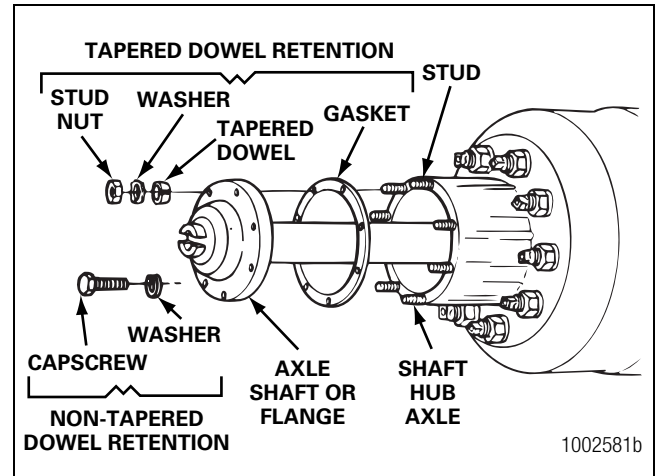

Figure 11.4
6. Remove the stud nuts or capscrews and washers from the flange of the axle shaft. Figure 11.4.
7. Loosen the tapered dowels, if used, in the flange of the axle shaft. Figure 11.4.
9. Remove the tapered dowels, gasket, if used, and the axle shaft from the axle assembly. Figure 11.4.
5. Install the gasket, if used, and axle shaft into the axle housing and carrier in the same location. The gasket and flange of the axle shaft must be flat against the hub. Rotate the axle shaft or the driveline as necessary to align the splines and the holes in the flange with the studs in the hub. Figure 11.4.